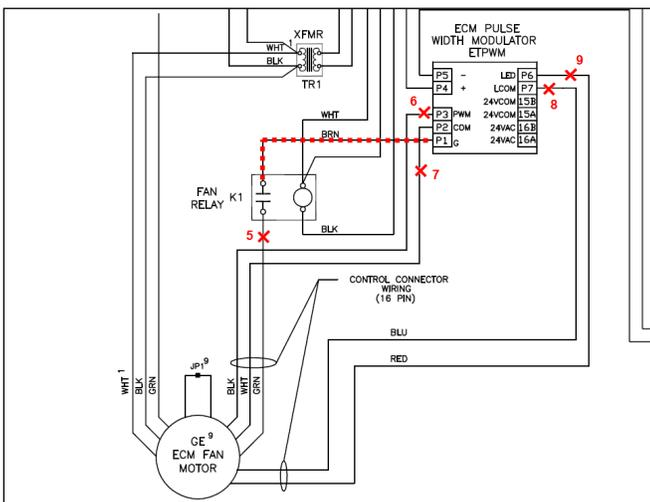

Figure 3 – Remove Motor Signal Wires
REMOVE MOTOR SIGNAL WIRES (See Figure 3)
- Remove wire between P1 and fan relay (K1) contact and discard (BRN in Figure 3, but color may vary depending on unit).
- Remove wires between P1 on both PWM boards and fan relay (K1) contact and discard (BRN in Figure 3, but color may vary depending on unit). Only one set of fan relay contacts will be used with the G3 PWM board.